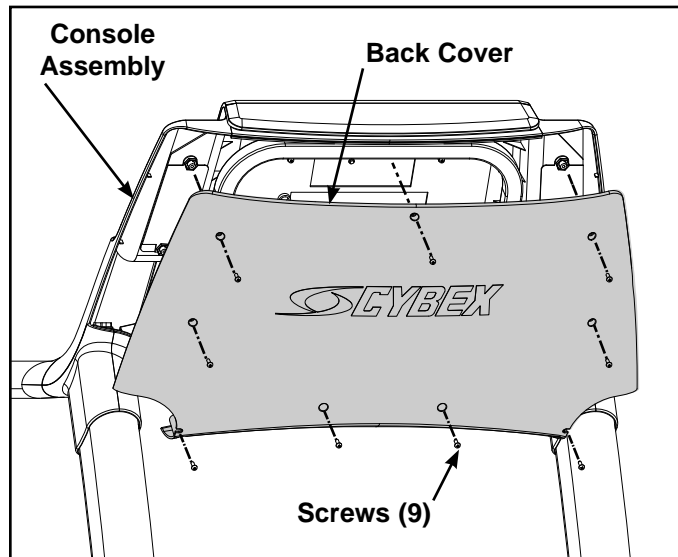

Figure 24
- A. Using a Phillips screwdriver remove the nine screws securing the back cover to the console assembly. See Figure 24.